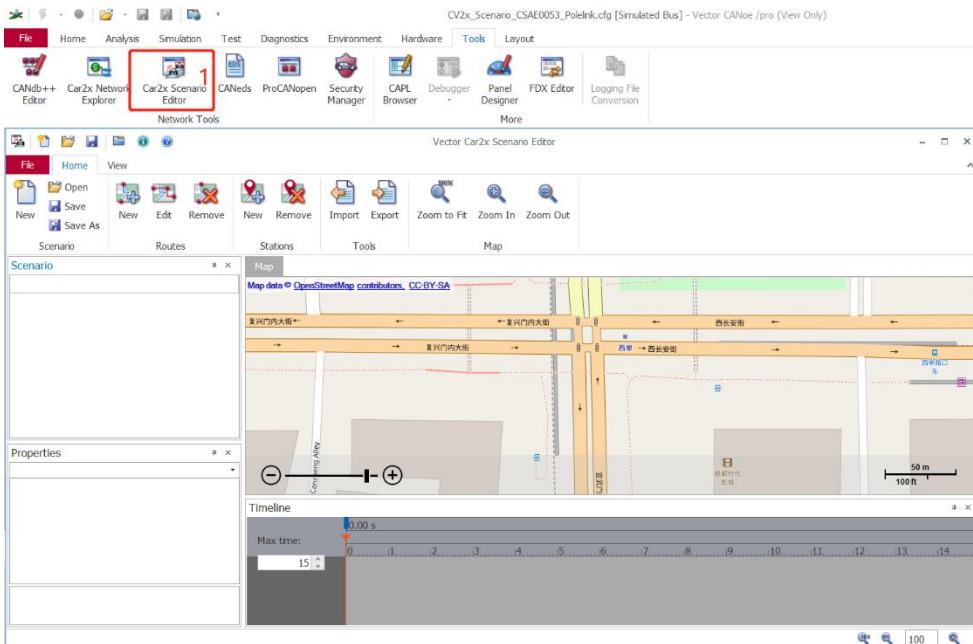

Figure 9: Car2x Scenario Editor
- ▶ Use the CANoe software to open the CANoe project, and open the Car2x Scenario Editor tool in the Tools toolbar (Figure 9):